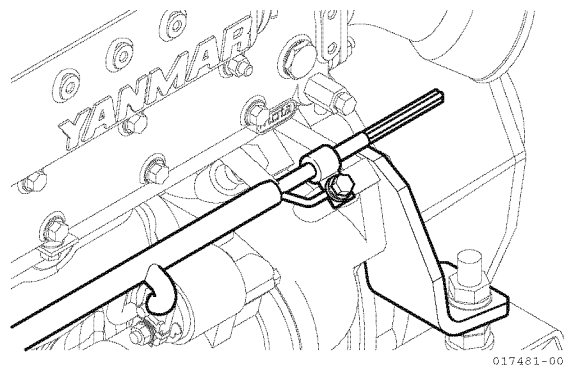

Figure 5-199
- 72. Connect the electric wiring to the proper terminals, observing the color coding to make sure the connections are correct. Clamp the wire harness by fastening the clamp to the upside to avoid interfering with the mounting foot (Figure 5-199).